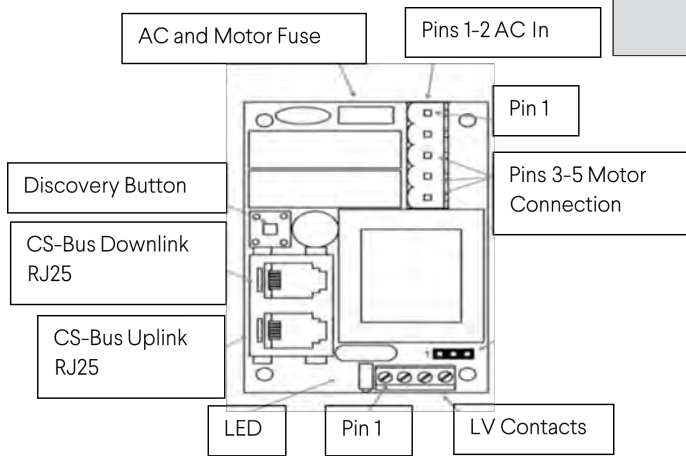

Figure 26. IMC control board schematic
The IMC has the capability of being operated through a wall switch, infrared remote, radio frequency remote, internet protocol (IP) control system, and a screen trigger through a projector. The IMC is the most robust controller offered for Luxus. For a detailed look at what the IMC has on board, please see below (see Figure 26).